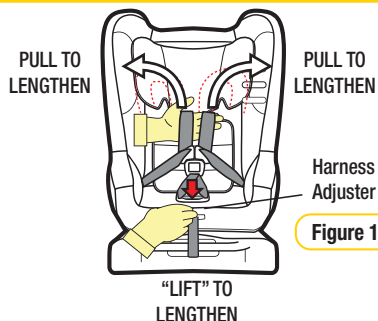

Figure 1
**Step 2:** To lengthen the harness “LIFT” the harness adjuster (refer Figure 1) whilst grasping both shoulder harness straps and pulling. Ensure shoulder straps are pulled equally on each side.